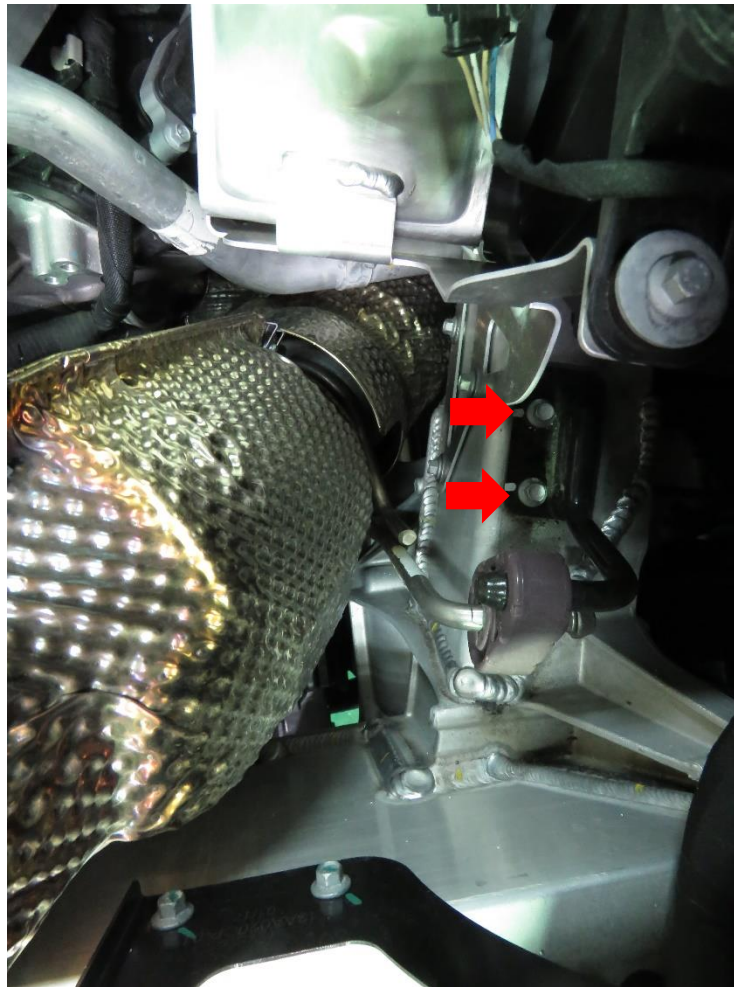

Fig. 8
12. Remove the left and right cat pipe bush holders. (Fig 8)